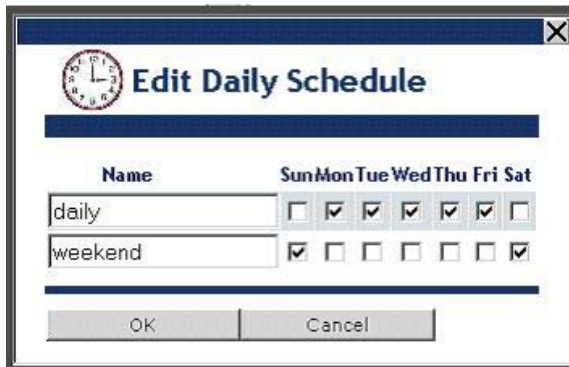

Figure 6.5 Edit Daily Schedule Dialog
- To create separate schedules for each day of the week, right-click the calendar on the right side of the Web page and select **Edit Daily Schedules** from the shortcut menu. The dialog shown in Figure 6.5 opens.
You can also select a check box to add that day to an existing schedule. For example, in Figure 6.5, you could select the Monday check box for the weekend schedule. This would remove Monday from the daily schedule, and add it to the weekend schedule.